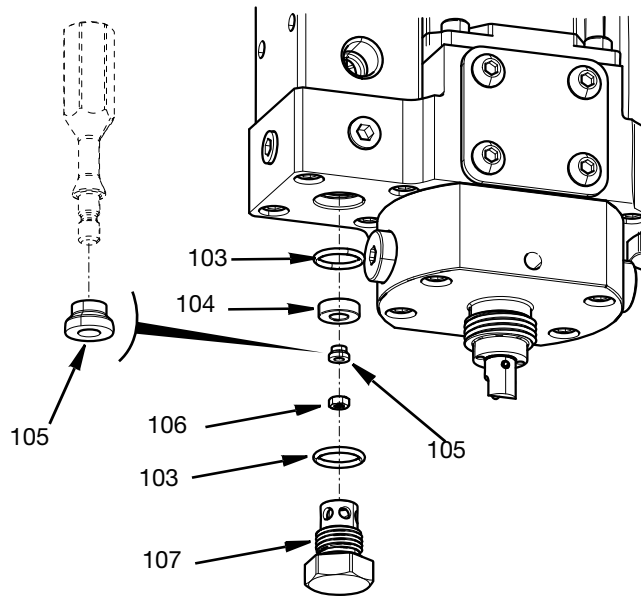

FIG. 38
2. Remove the valve seat retainer (107) using a 19 mm open end wrench.
3. Remove the nut (106) holding the reverse tip (105) using a 5.5 mm socket.
4. Using pin removal tool (149), align and center large diameter end of pin removal tool onto the reverse shaft (128) and press until it stops.
5. Remove the valve seat (104) and O-ring (103) using a 45° style pick. See FIG. 38 page 51.
3. Slide the reverse tip (105) onto the rod adapter. Note the orientation of the reverse tip. See FIG. 38.
4. Apply blue anaerobic sealant (132) to the threads of the rod adapter and tighten the nut (106) using a 5.5 mm socket. Torque to 8-10 in-lbs (1.12-1.35 Nm). Reference FIG. 38.
5. Install O-ring (103) onto valve seat retainer (107).
6. Install valve seat retainer (107). Torque to 30-35 in-lbs (3.39-3.95 Nm).